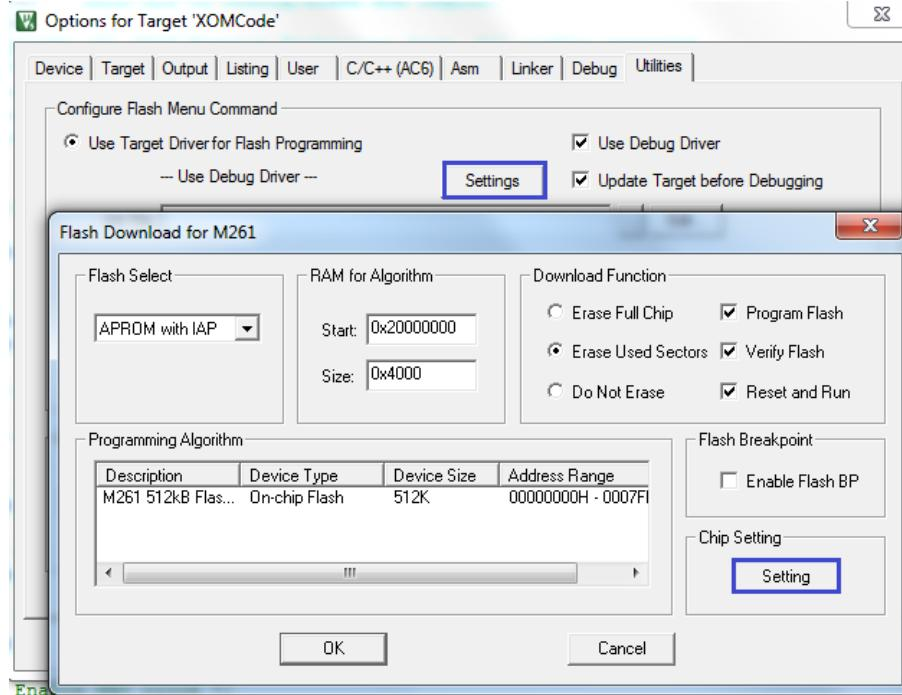

Figure 3-3 M261 Settings
- Click “Option”->“Utilities”->“Settings” button to enter Flash Download page. Click the “Setting” button in the “Chip Setting” to enter the “M261 Settings” page, as shown in Figure 3-3.